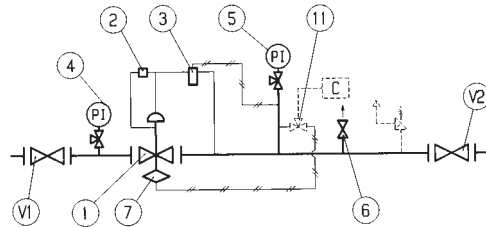

Fig. 22
5.4 MESSA IN SERVIZIO REGOLATORE APERFLUX 851 CON VALVOLA DI BLOCCO SB/82 INCORPORATA (FIG.22)
5.4 COMMISSIONING THE REGULATOR APERFLUX 851 WITH INCORPORATED SB/82 SLAM-SHUT (FIG. 22)
5.4 INBETRIEB. DES REGLERS APERFLUX 851 MIT SICHERHEITSABSPERR- INTEGR.SPERR-VENTIL SB/82 (FIG. 22)
5.4 MISE EN SERVICE DU DÉTendeur APERFLUX 851 AVEC VANNE DE SÉCURITÉ SB/82 INCORPORÉE (FIG. 22)
5.4 PUESTA EN SERVICIO DEL REGULADOR APERFLUX 851 CON VÁLVULA DE BLOQUEO SB/82 INCORPORADA (FIG. 22)
5.4 ATIVAÇÃO COM REGULADOR APERFLUX 851 E VÁLVULA SEGURANÇA INCORPORADA SB/82 (FIG. 22)